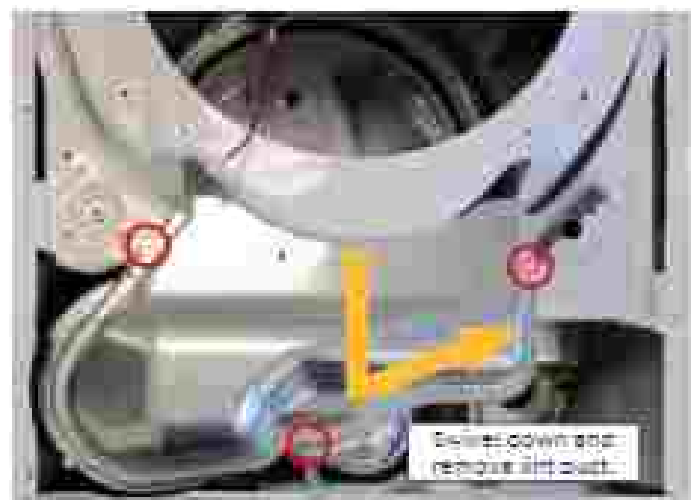

Figure 5 - Remove lint duct screws.
6. Remove the three (3) circled 1/4" hex-head screws from the lint duct as illustrated in Figure 5. Swivel the lint duct down from the bulkhead and remove.